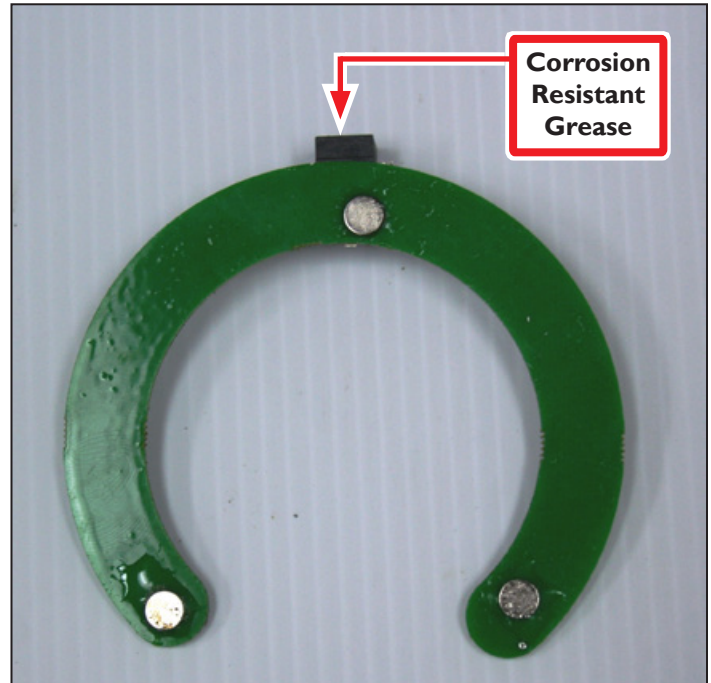

Figure 1
3. Epoxy Magnets to back of spindle light per instructions on Epoxy packet (see **Figure 1**). Spindle light can also be epoxied to spindle.
NOTE: The electrical connector on light contains corrosion resistant grease (see **Figure 1**). Do not remove grease and do not allow grease to come in contact with cleaned surfaces.